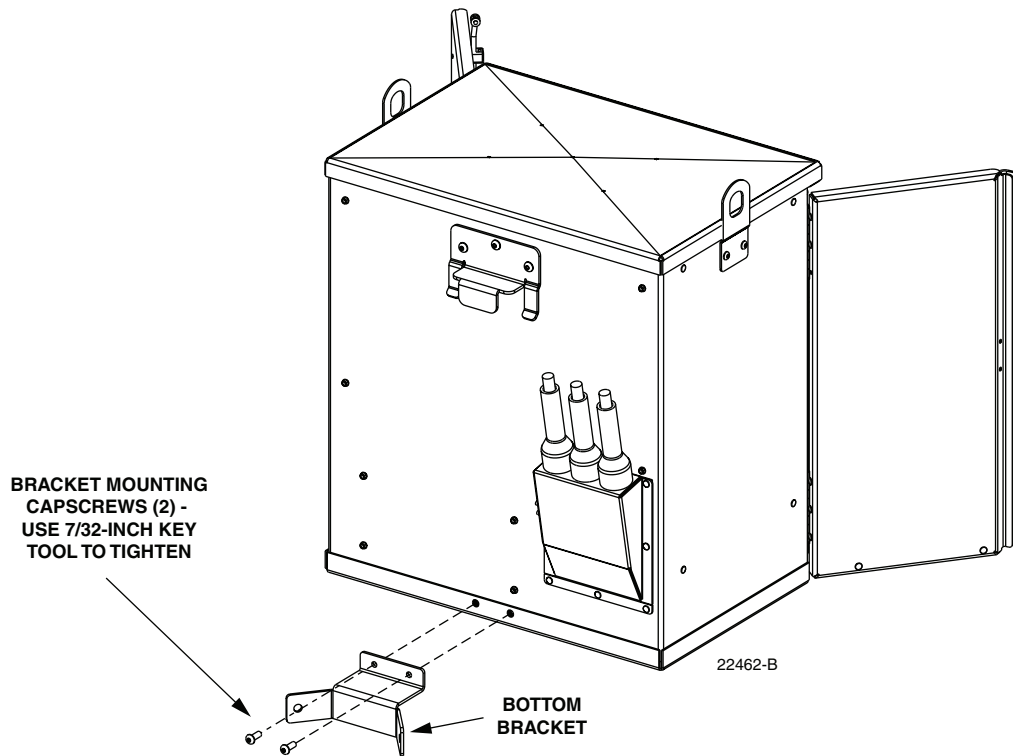

Figure 4. Securing Bottom Mounting Bracket to the Cabinet
5. Locate the two bottom bracket mounting cap screws (shown in Figure 4) and the 7/32-inch hex key that are provided with the cabinet.